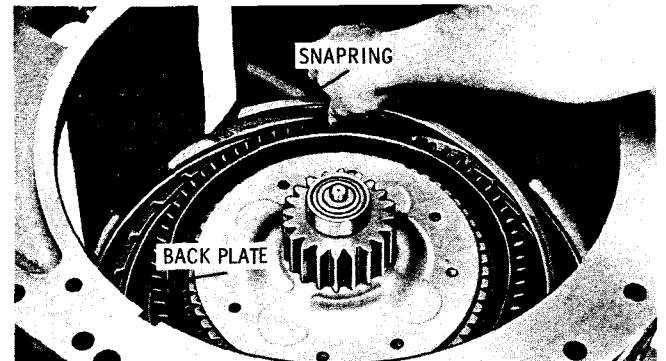

Fig. 7-11. Installing high-range clutch back plate snapping S1658
(11) Reinstall the high-range clutch back plate (see (8), above). Reinstall high-range clutch internal snapping (fig. 7-11).